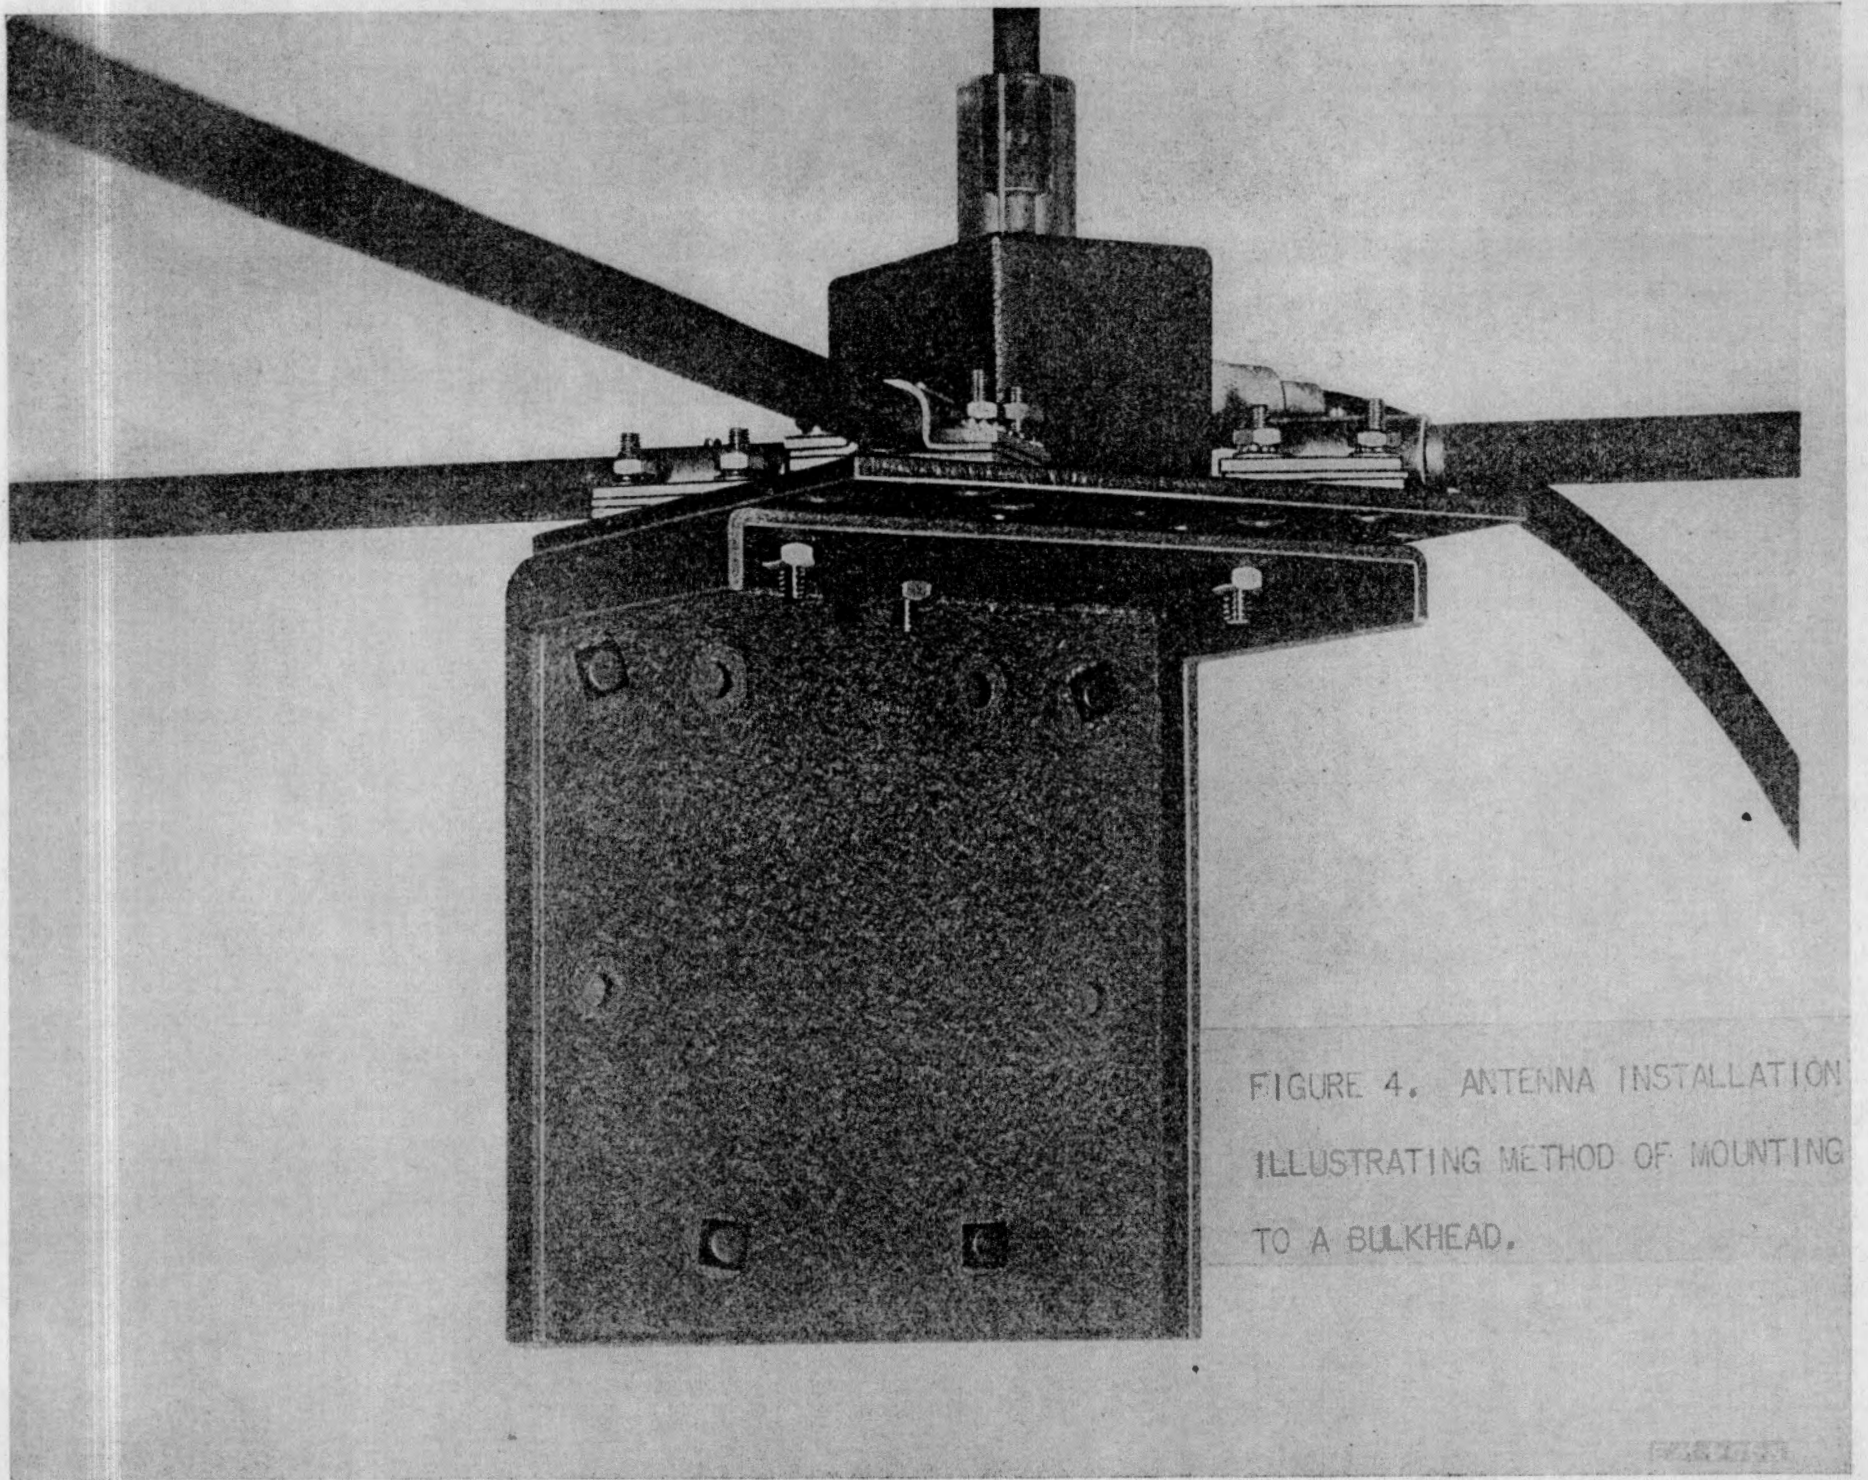

FIGURE 4. ANTENNA INSTALLATION
- Figure 4. Antenna installation illustrating method of mounting to a Bulkhead.